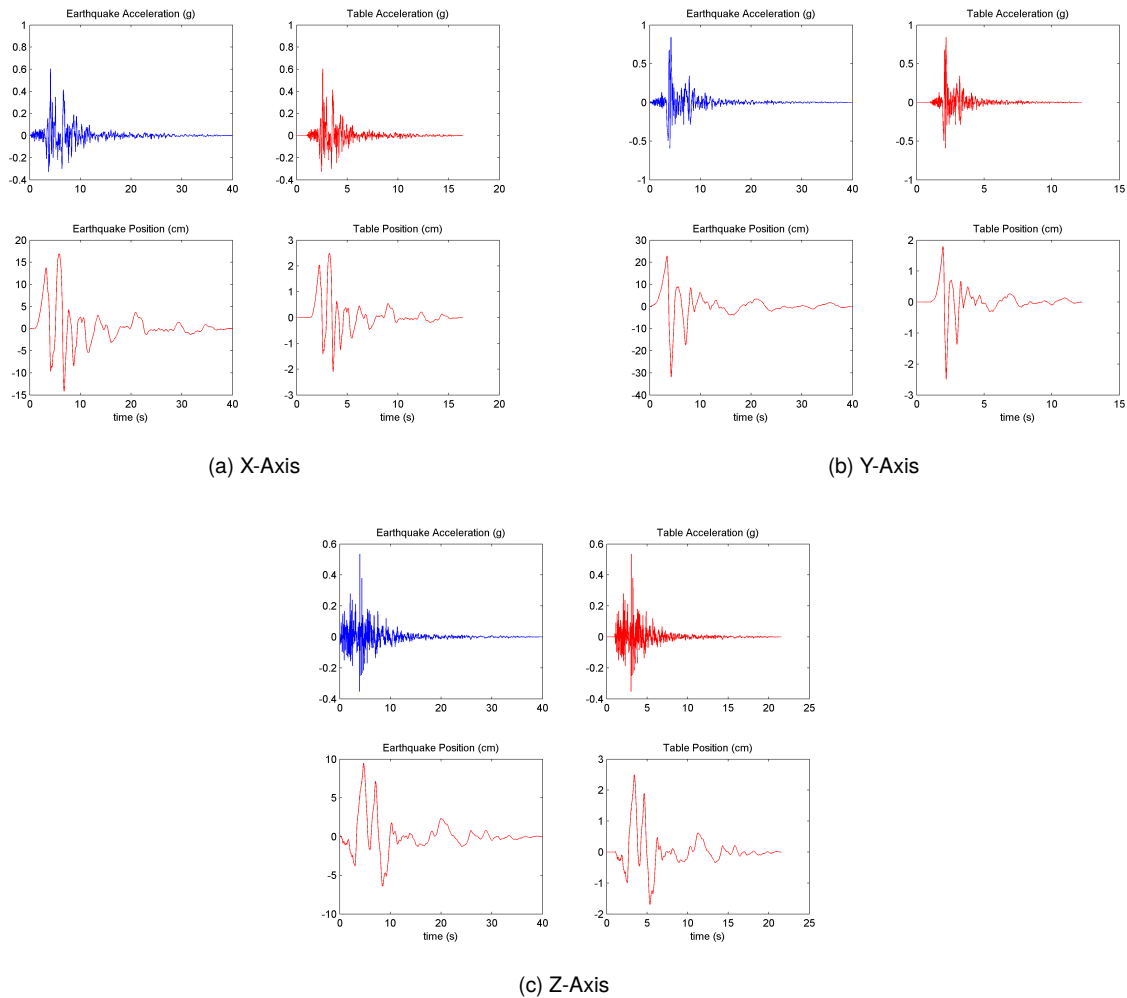

Figure 4.1: Northridge earthquake plot created by `make_quake_xyz.m` script
- Run the `make_quake_xyz.m` script (click on Debug | Run in the Editor menu bar or on the *Run* icon in the Editor tool bar) to generate the earthquake wave. This will generate a plot similar to Figure 4.1. The desired acceleration and recorded earthquake acceleration is shown in the top plot (in gravitational units) and the scaled position setpoint in the bottom plot (in centimeters).